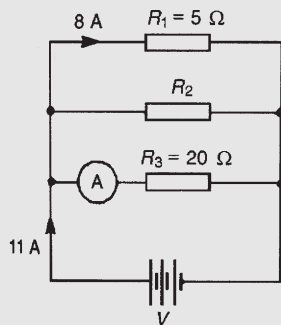

Figure 5.13
**Problem 6.** For the circuit shown in Fig. 5.13, determine (a) the reading on the ammeter and (b) the value of resistor  $R_2$